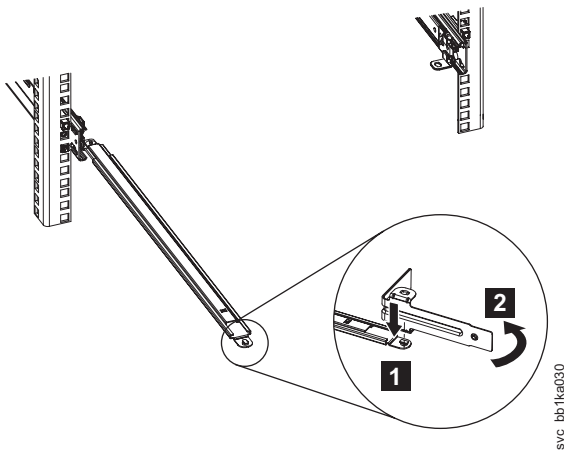

Figure 17. Rack rear: Installing the SAN Volume Controller 2145-CF8 cable-management stop bracket
2. Install the L-shaped cable-management stop bracket, as shown by **1** in Figure 17 on the unattached end of the support arm. Turn the bracket **2** to secure it to the support arm.